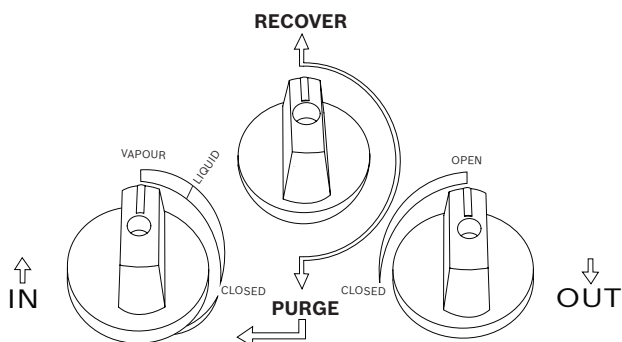

Fig.2: Valve positions for normal recovery
2. Before making any hose connections, ensure that A/C or refrigeration system service valves, manifold gauge set valves, recovery unit control valves and recovery tank valves are all in the closed position. Also, make sure that the recovery / purge valve is in the **RECOVER** position (pointed upwards). Refer to Fig. 2.
11. Turn the recovery machine Inlet (blue) control valve to the **LIQUID** marking on the front panel, refer to Fig 2. Rotate the Master Switch to the **ON** position to start the recovery.
3. Before making any hose connections, ensure that system service valves, recovery unit control valves and recovery tank valves are all in the closed position. Also, make sure that the recovery / purge valve is in the **RECOVER** position (pointed upwards). Refer to Fig. 2.